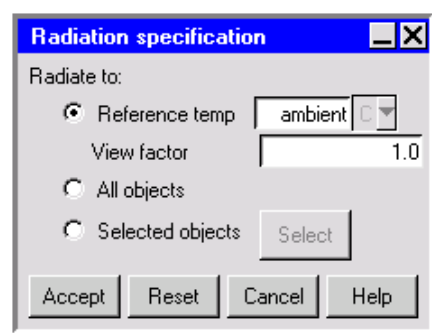

Figure 22.3.2: The Radiation specification Panel
- For the whole block, select the **Radiation** option in the **Blocks** panel. Click **Edit** to access the **Radiation specification** panel (Figure 22.3.2).
- For individual sides of the block, select the **Individual sides** option in the **Blocks** panel. Click **Edit** to open the **Individual side specification** panel. Select **Radiation properties** to access the radiation properties, which are the same as those shown in Figure 22.3.2.
- 2D source: Select the Radiation option in the Sources panel. Click Edit to access the Radiation specification panel (Figure 22.3.2).
- Person: Select the Radiation option in the Person panel. Click Edit to access the Radiation specification panel (Figure 22.3.2).
- Wall: Select the Inner surface radiation option in the Walls panel and click Edit to access the Radiation specification panel (Figure 22.3.2).
- Partition: Select the Low side or High side option under Side specification in the Partitions panel and click Edit to open the Low (or High) side surface properties panel. Select Radiation to access the radiation properties, which are the same as those shown in Figure 22.3.2.